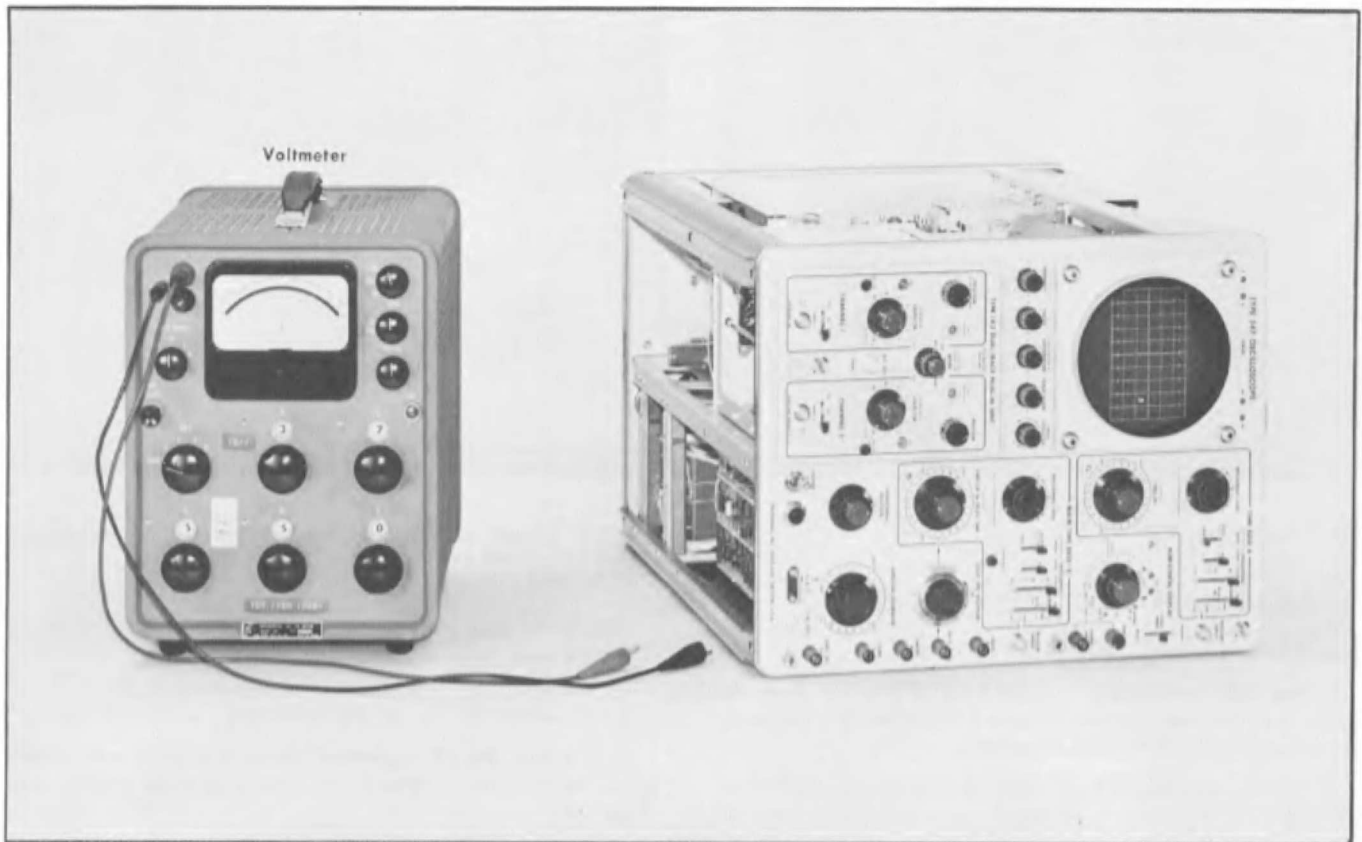

Fig. 7-3. Initial equipment setup for steps 1 through 4.
- Equipment setup is shown in Fig. 7-3.
- a. Equipment setup is shown in Fig. 7-3.